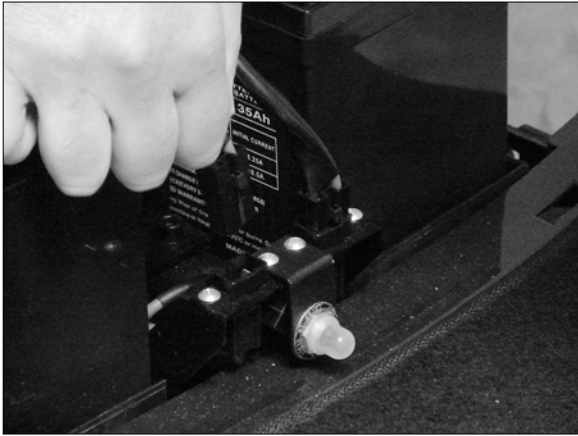

FIGURE 18. BATTERY CONNECTORS
2. Squeeze the locking ear on the connector and disconnect the batteries from the frame. See Figure 18.
1. Pull up on the T handle next to the seat post See figure 18. Pulling up on the T handle will separate the front and rear section.
2. Reconnect the batteries. See figure 18 on page 24.